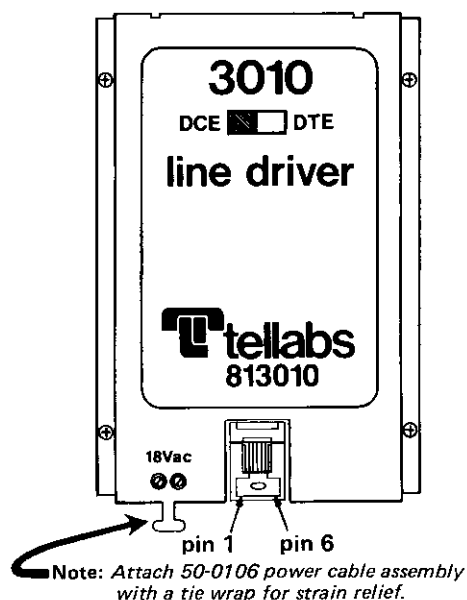

figure 4. Pin numbering of modular phone jack, 18Vac power input terminal, and DCE/DTE option switch
2.02 The 3010 contains a slide switch for selection of DCE or DTE configuration. Figure 4 shows the location of this option switch, which is accessible without removing the unit's cover. Set the DCE/DTE switch to the DTE position when the 3010 interfaces data terminal equipment. Set the DCE/DTE switch to the DCE position when the 3010 interfaces data communication equipment.
2.05 4Wire Metallic Facility Connections. Connections to the 4wire facility are made via a standard six-pin modular phone jack mounted on the 3010. Table 2 lists the lead assignments for this jack (these are the required connections to the 4wire facility), and figure 4 shows the pin numbering for the jack. Tellabs supplies as standard equipment the proper adapter cable (part number 50-
2.06 Power Connections. The 3010 is powered by 18Vac input, which is provided by an external transformer (supplied with the 3010) that plugs into a standard 117Vac, 60Hz wall outlet. Before plugging the transformer into the outlet, make the following connection: using the 6-foot cable supplied with the 3010, connect the 18Vac terminals on the 3010's transformer to the 3010's 18Vac power input terminals (see figure 4). Because the power input is ac, polarity is immaterial. After making this connection, plug the 3010's transformer into a standard wall outlet.